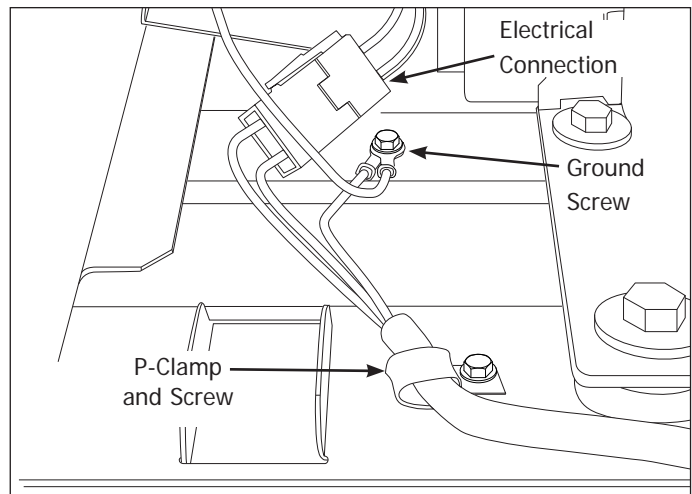

Figure 5-22. Power Cord Removal
3. Using a 1/4" socket or wrench, extract the screw securing the P-clamp to the compressor mounting plate. (See Figure 5-22)